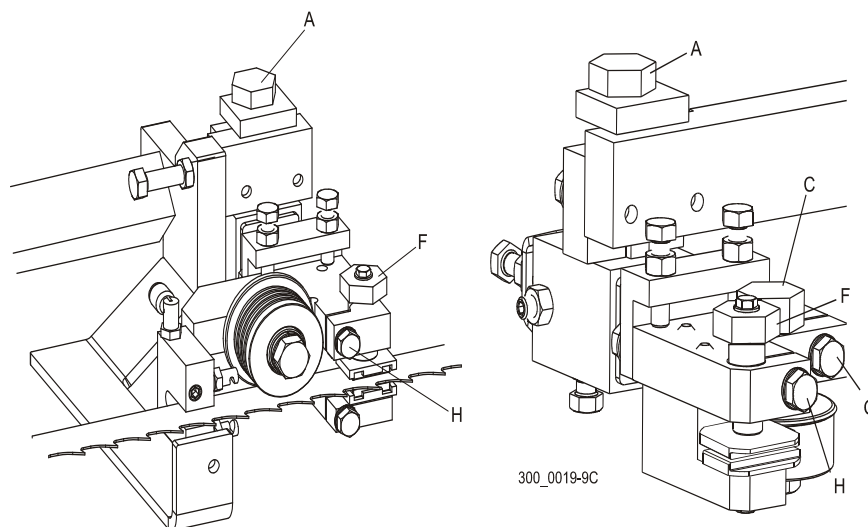

FIG. 3-24
See Figure 3-24. Optional Roller/Block Guides: Turn blade guide roller bolt (C) to move the roller so it is 1,5mm-3mm (1/16"-1/8") from the back edge of the blade and tighten clamp bolt (G). Turn blade guide assembly bolt (A) clockwise to raise the bottom guide block up until it touches the blade, but does not deflect it upward. Turn top guide block bolt (F) clockwise to move top block down until it touches the blade, then back 1/4 turn. Tighten clamp bolt (H). Repeat for other blade guide assembly.